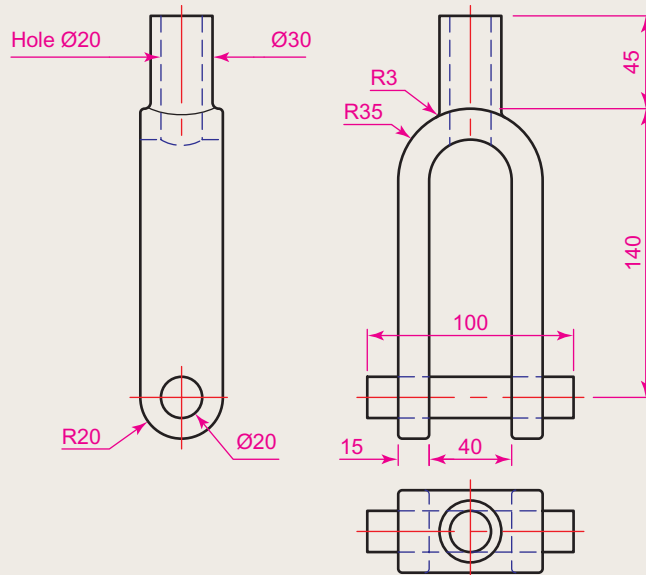

Fig. 17.42 Exercise 6
6. A fork connector and its rod are shown in a two-view projection in Fig. 17.42. Construct a 3D model drawing of the connector with its rod in position. Then add lighting to the scene, place in the **ViewCube/Isometric** viewing position, add materials to the model and render.